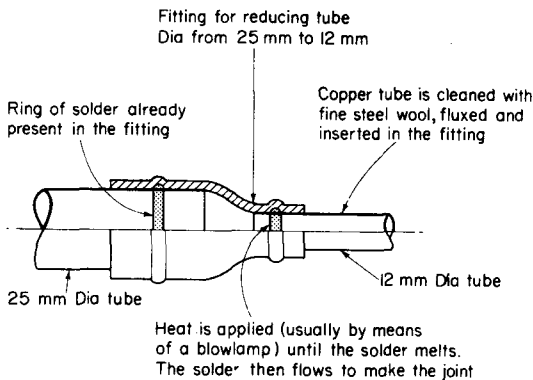

Fig. 4.164 Reading soldered joint for light-gauge copper tube
4. **Capillary soldered joints** (Fig. 4.164). This is essentially a sweated joint which is frequently used in industrial and domestic heating systems. The closeness of fit between the tubes and the fitting is of the utmost importance. It is this which makes sure that the molten solder creeps over the joint area. Frequently the fittings are ready soldered by the manufacturer.